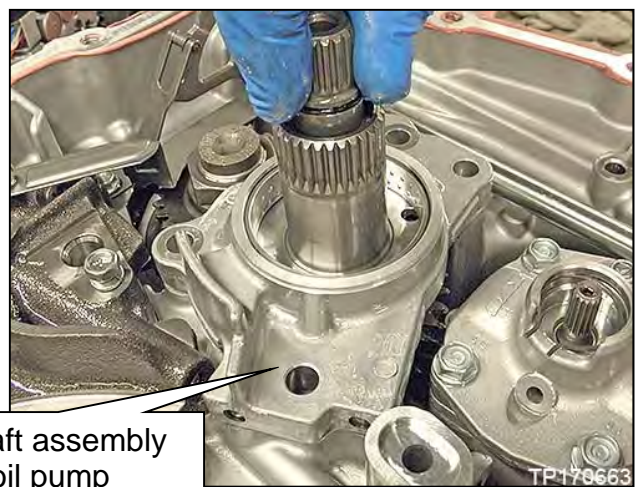

Figure 79
- Hold the input shaft assembly by the end, as shown in Figure 79, and pull straight up to remove.